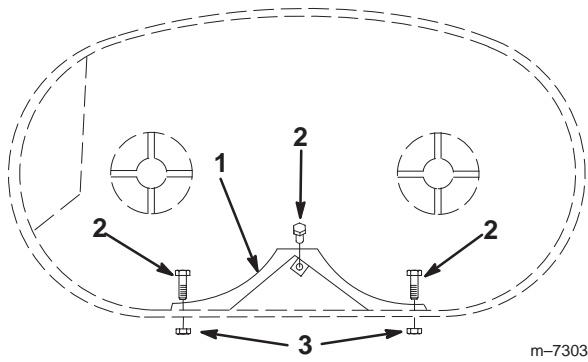

Figure 2
4. Remove the four bolts and four flange nuts securing the existing rear baffle and extension baffle to the deck and remove the baffle (Fig. 2). Save the fasteners for later use.
5. Install the new rear baffle using three bolts and three flange nuts removed previously (Fig. 2).